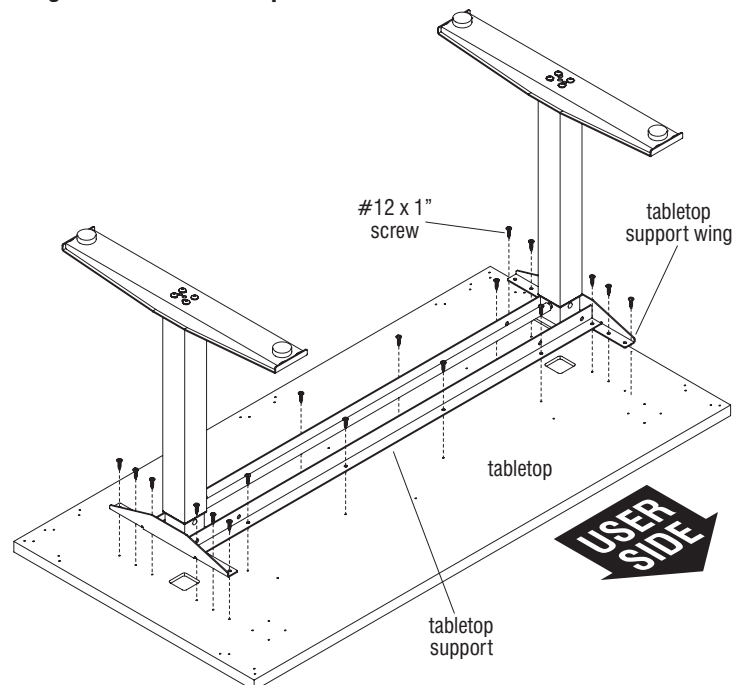

Figure 3 - 30"-36" Deep Tables
tabletop. The support should now be flush with the tabletop (Figure 3 & Detail C).
3. Move the tabletop support with columns slightly to align the holes in the tabletop with those in the support (Figure 3 & Detail C).
4. Attach the tabletop support to the tabletop using #12 x 1" tapping screws in each available hole (Figure 3 & Detail C).